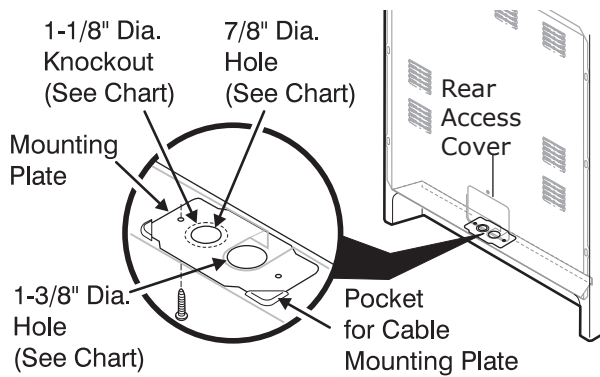

Fig. 9
See range connection opening size chart (Figs. 9 & 10) for cord kit ampere rating information. Terminals on end of wires must be either closed loop or open-end spade lugs with upturned ends.
The Rear Access Cover must be removed (Fig 9). To remove, loosen center screw (one screw) and remove cover. The terminal block will then be accessible.
NOTE: Range is shipped from factory with 1-3/8" dia. hole as shown. To use either 7/8" dia. hole or 1-1/8" dia. knockouts refer to Fig. 9.
1. Follow the manufacturer's installation instructions supplied with the strain relief and install (Also see Figs. 9, 10 & 11).
5. Make sure all screws are tightened securely and replace the rear access cover (See Fig. 9).
3. Make sure all connections are tightened securely and replace the rear access cover (See Fig. 9).
5. (3 & 4 - Wire Permanent Connections) Make sure all connections are tightened securely and replace the rear access cover (See Fig. 9).